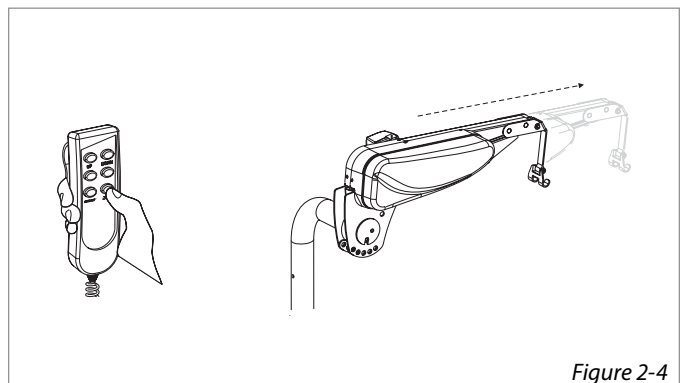

Figure 2-4
**NOTE: AL435** series lifts (AL435 / AL435T) have an "EXTEND" button which can be pressed to extend the arm outside, providing more clearance past the vehicle for wider chairs or scooters. [Figure 2-4]